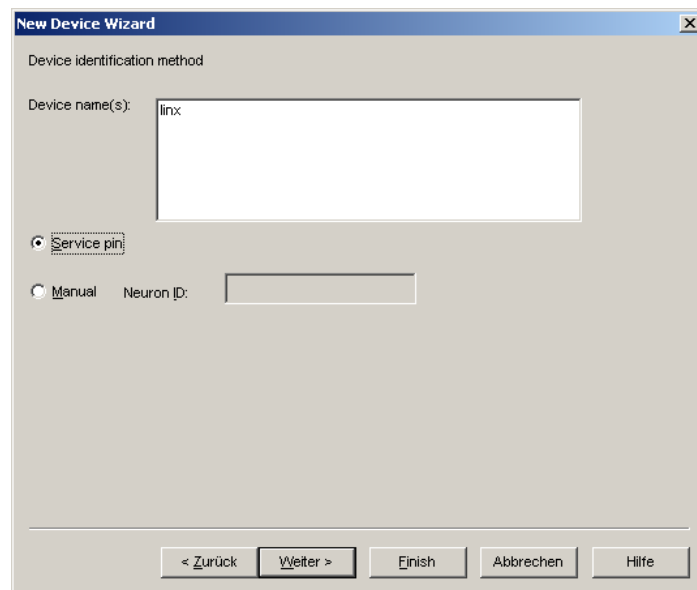

Figure 118: Use Service Pin.
6. Check Service Pin as the device identification method as shown in Figure 118 and click **Next**.